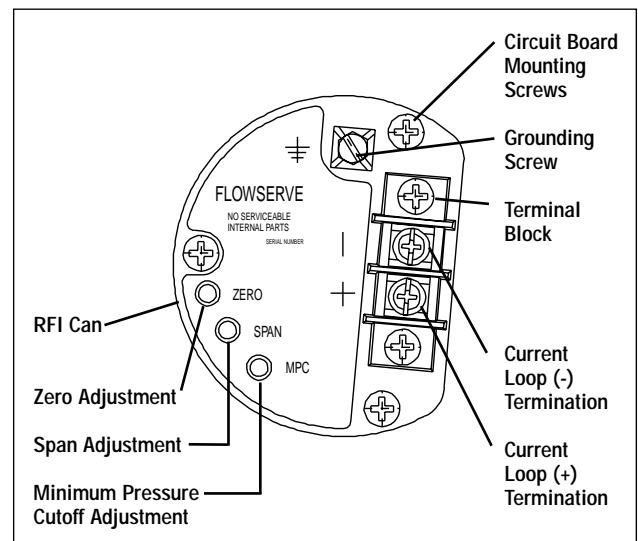

Figure 9: NT 3000 Circuit Board Module (housing cover removed)
2. Remove I/P module housing cover. (See Figure 9.)
the positioner. When the input signal falls below a user-adjustable current, the pressure output falls rapidly to approximately 1.7 psi, causing the valve to move to the failure position. This feature is generally used when the service requires a tight shut off or to prevent throttling near the valve seat. To adjust this feature, refer to Figure 9 and perform the following :